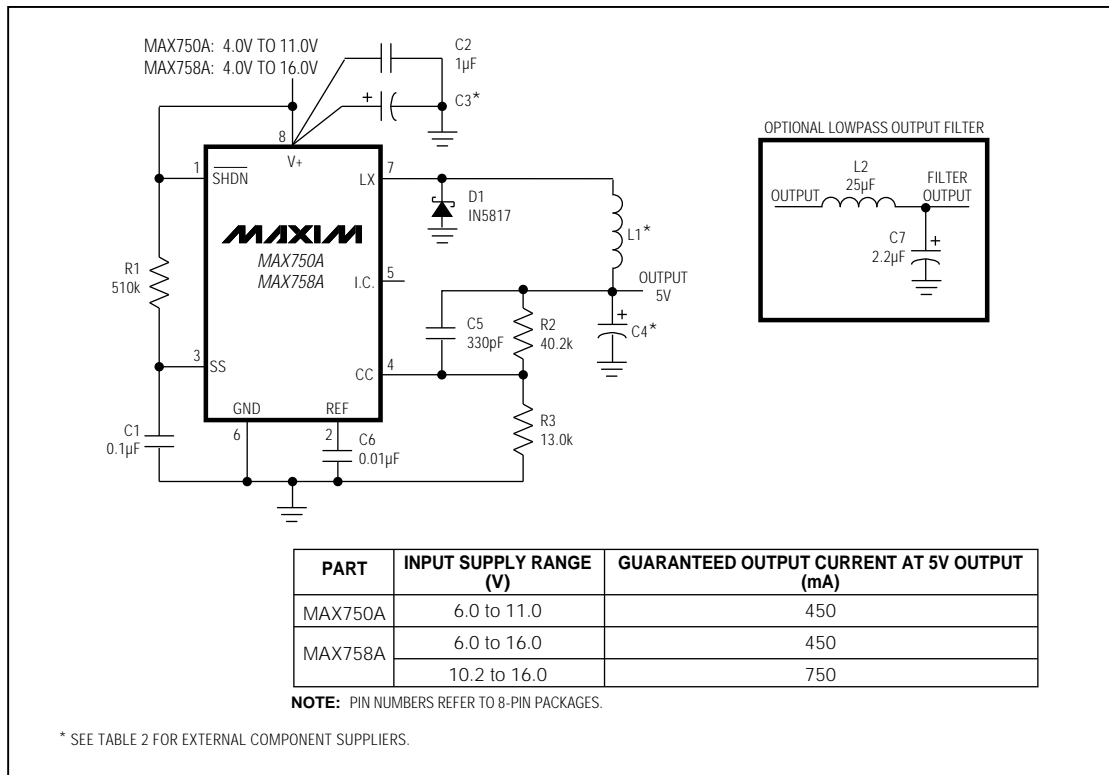

Figure 3. Standard Step-Down Circuit
(Circuit of Figure 3,  $V_{OUT} = 5V$ ,  $T_A = +25^\circ C$ , unless otherwise noted.)
Figure 3 shows the MAX750A/MAX758A configured for a standard 5V step-down application. Table 2 lists the components for the desired operating temperature range. These circuits are useful in systems that require high current at high efficiency and are powered by an unregulated supply, such as a battery or wall-plug AC-DC transformer. They will operate over the entire line, load, and temperature ranges using the single set of component values shown in Figure 3 and listed in Table 2.
The MAX750A/MAX758A have outputs adjustable from 1.25V to the input voltage. To set the output voltage, connect a voltage divider to the feedback input pin (CC) as shown in Figure 3. The output voltage is set by R2 and R3 as follows:
A simple lowpass pi-filter (Figure 3) can be added to the output to reduce output ripple to about 5mVp-p. The cutoff frequency with the values shown is 21kHz. Since the filter inductor is in series with the circuit output, its resistance should be kept to a minimum so the voltage drop across it is not excessive.